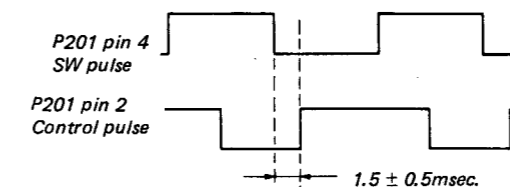

Fig. 1-4-10 Subtracking adjustment
2. Adjust R553 so that phase difference of $1.5 \pm 0.5\text{msec}$ is obtained between the rising edge of the video switching pulse and the rising edge of the control pulse. (Fig. 1-4-10)